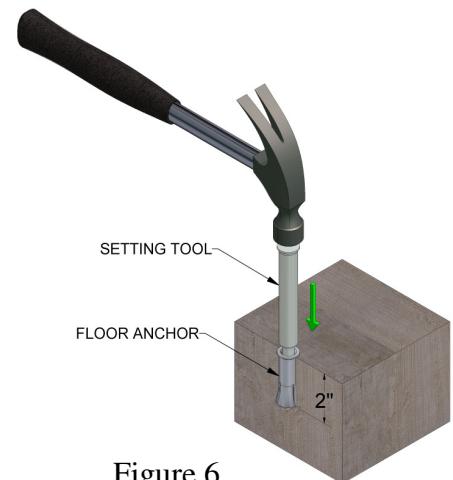

Figure 6
The step of locking or setting the anchors is critical; ensure that it is done correctly! (FIG 6)
6. Using a punch or setting tool (customer supplied), set the floor anchor by striking the plunger in the center of the floor anchor. Strike the setting tool or punch with a hammer repeatedly, to expand the anchor in the hole (FIG 6).